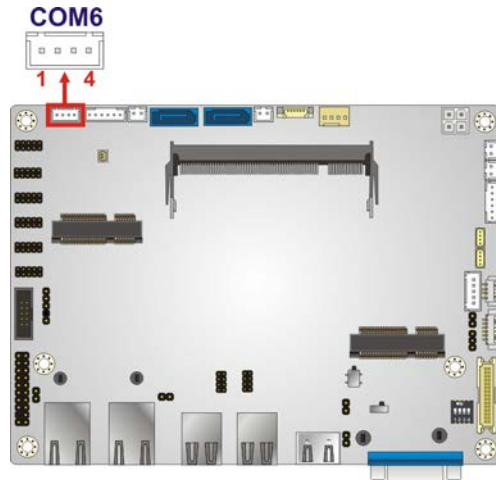

Figure 3-21: RS-422/485 Connector Location
- CN Location:** See Figure 3-21